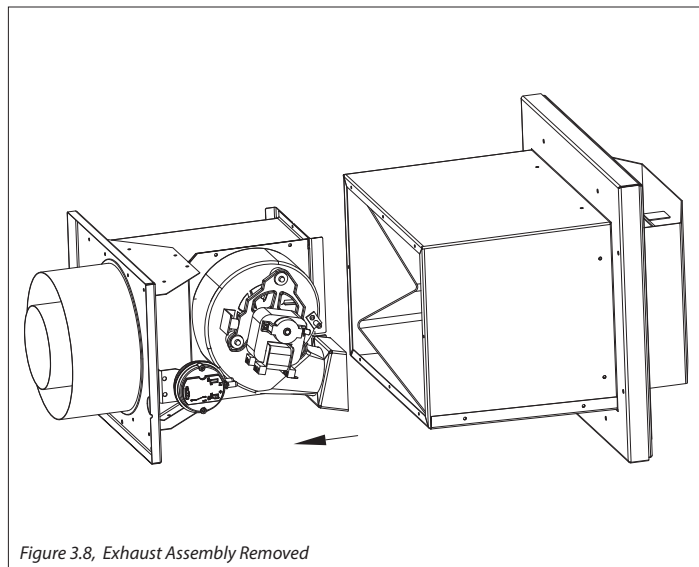
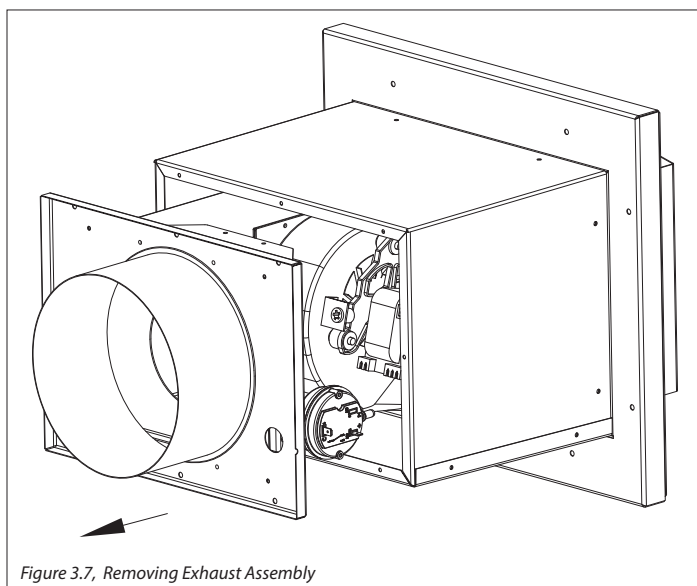

Figure 3.8, Exhaust Assembly Removed
Figure 3.7, Removing Exhaust Assembly
2. Slide the exhaust assembly out of the back of the cap. See Figure 3.7 and Figure 3.8.